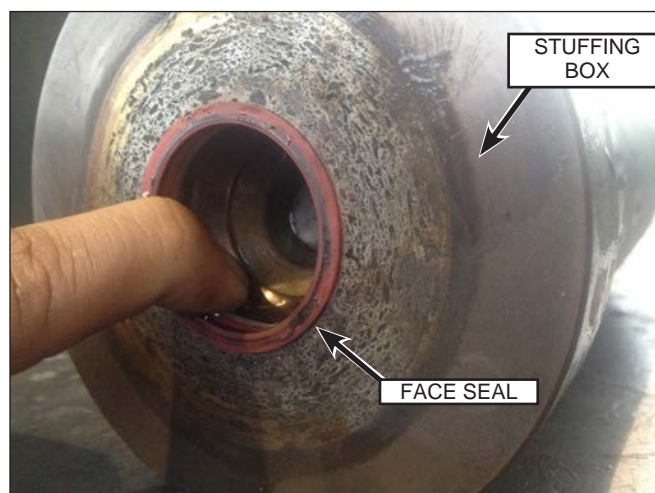

Figure 67: Face Seal Removal.
1. Press slightly behind the face seal using your finger and gently pull the seal out (Figure 67).